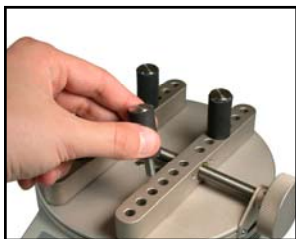

Fig. 1
2. Place the tester on a firm, flat and level working surface free from vibration. If preferred, the CTA can be secured to a work bench with screws through the four tapped holes in the underside of the base. Then fasten the sample gripping posts into the desired holes on the sliders (see Fig. 1).
Place the sample between the posts or jaws of the tester, and tighten, using the knob. Posts can be placed in any of the holes on the sliders (see Figs. 1 & 2 below). Ensure that the sample is gripped firmly, however, excessive tightening of thin-walled closures may result in sample deformation, possibly affecting test results. When the sample is secured, **gradually** exert torque by hand. Sudden torque application may produce incorrect readings.